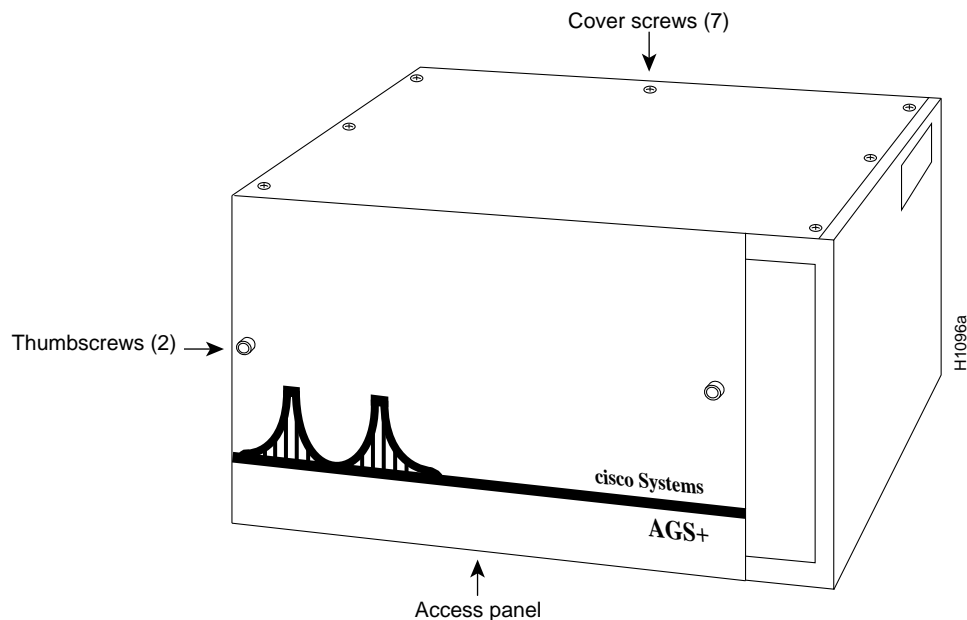

Figure 9 Chassis Front and Top Panels
- Step 5** To access cards in the card cage, loosen the two thumbscrews and remove the front panel from the chassis. (See Figure 9.) If you wish to access cards in the card cage only, skip the next step.
- Step 6** To access other system components, locate and remove the seven No. 1 Phillips screws securing the top cover. (See Figure 9.) Set the top cover and screws aside.